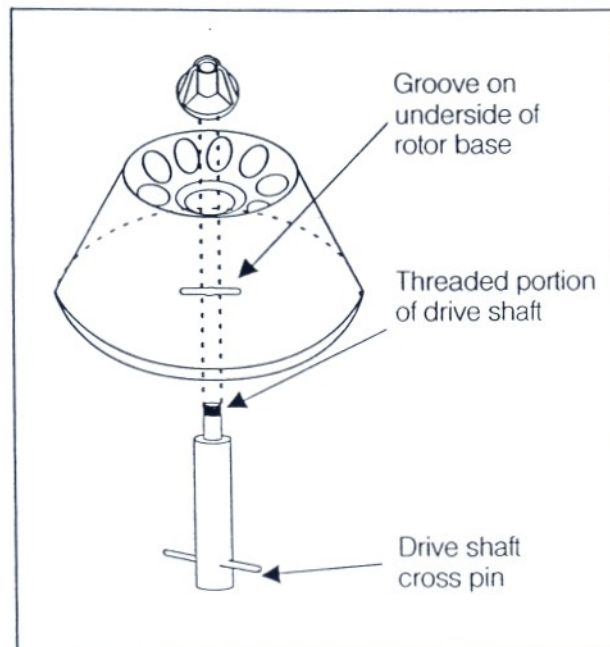

Figure 9. Correct Rotor Installation
To insure proper operation and prevent damage, the rotor must be properly positioned on the specially formed drive shaft each time it is re-installed. (See Section 3.1, Fig. 9 and Section 3.5.)
1. Turn the drive shaft to place the cross pin in a known position, e.g. long bar pointing to front (See Figure 9).